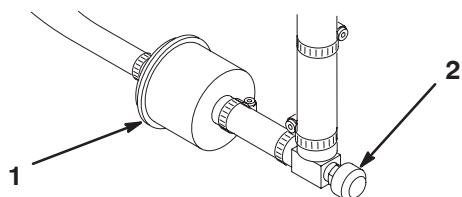

Figure 40
An in-line filter is incorporated into the fuel line between the fuel tank and carburetor (Fig. 40). Replace the filter every 800 hours or sooner if the fuel flow is restricted. Be sure the arrow on the filter is pointing away from the fuel tank.
- Close the fuel shut-off valve, loosen the hose clamp (Fig. 40) on the carburetor side of filter and remove the fuel line from the filter.
- Place a drain pan under the filter, loosen the remaining hose clamp, and remove the filter (Fig. 40).